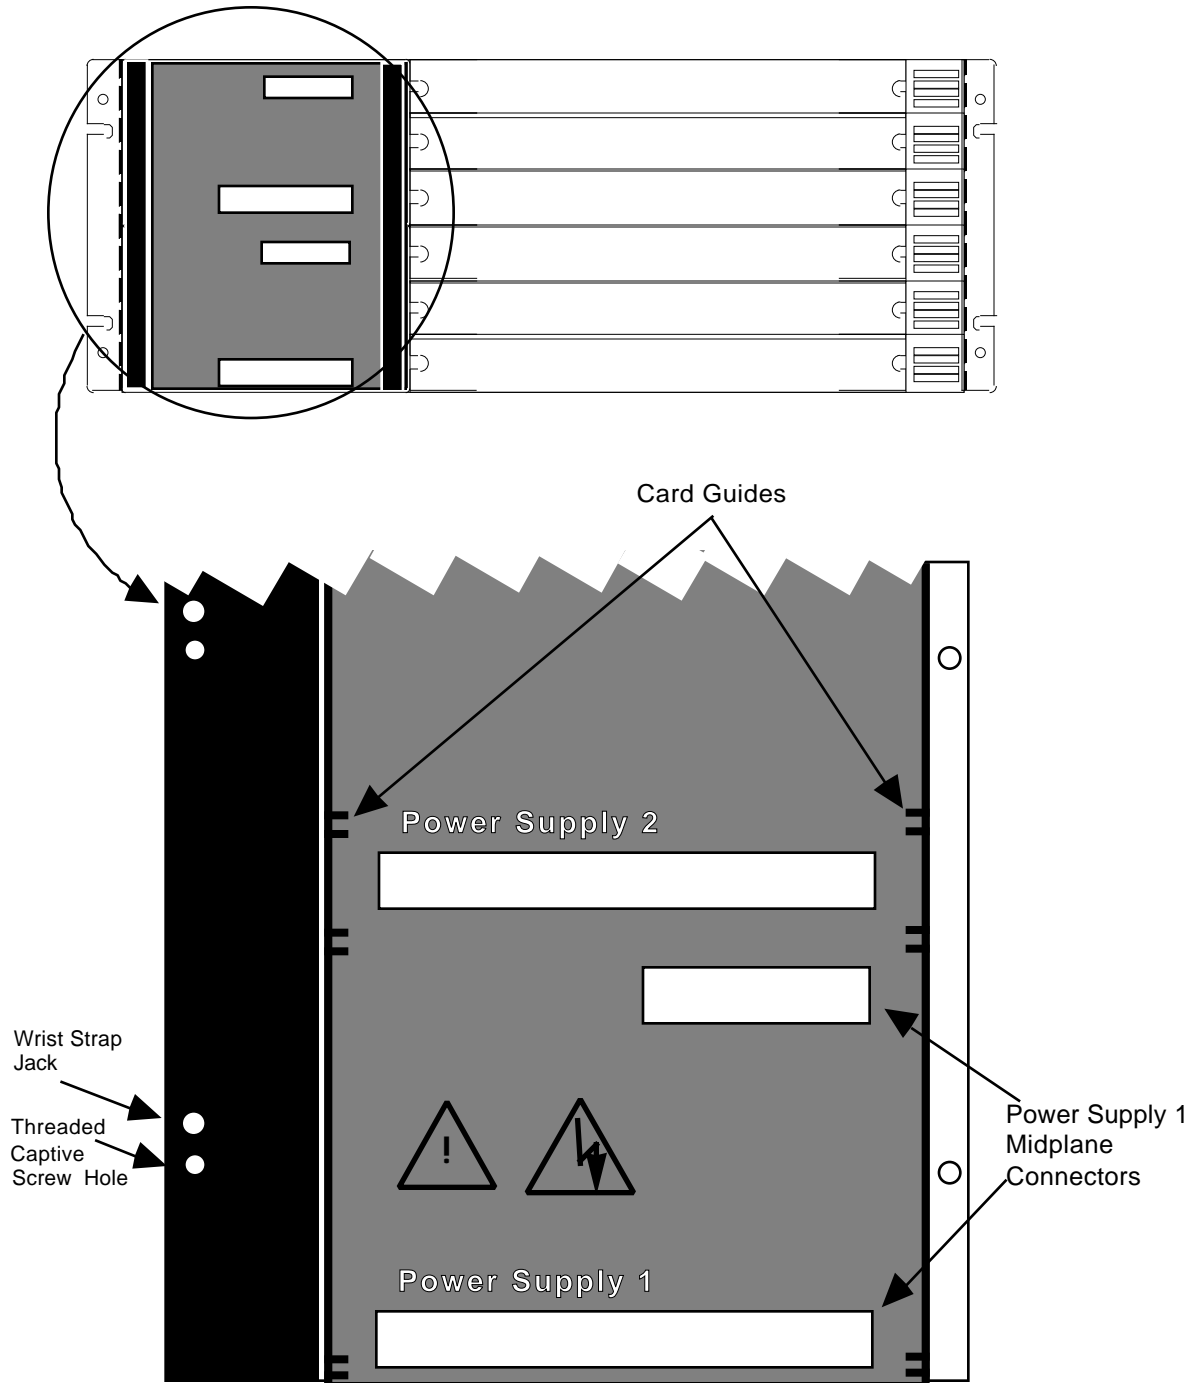

Figure 3-4. Interior of Hub Power Supply Area.
- b. Examine the area inside the hub that was uncovered by removing the blank panel. Along both sides of this area you will see card guides. There are two card guides for each power supply slot. (Parts of the printed circuit boards of the power supply protrude out from the metal power supply housing. These protrusions go in the card guides.) At the rear of the power supply slot you will also see two female connectors which will mate with connectors on the power supply. The detail portion of Figure 3-4 depicts the location of the card guides and the connectors.